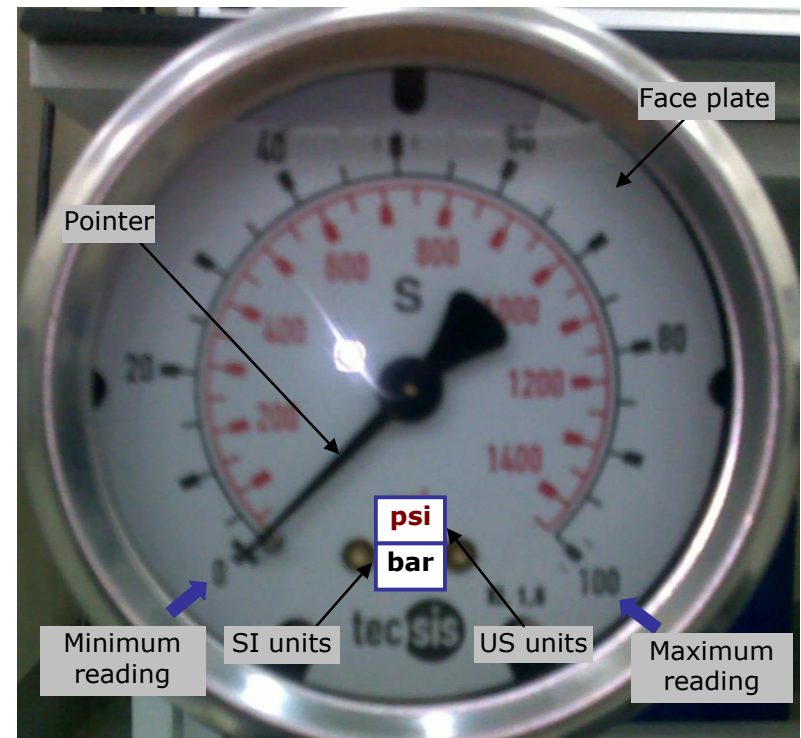

Fig. 1.13: A pressure gauge.
- A pointer rotates on the graduated scale as the pressure changes to indicate the pressure in the system. The pressure gauge used in the hydraulic power pack is shown in Fig. 1.13. The outer black scale indicates pressure units of bar, and the inner red scale indicates pressure units in psi